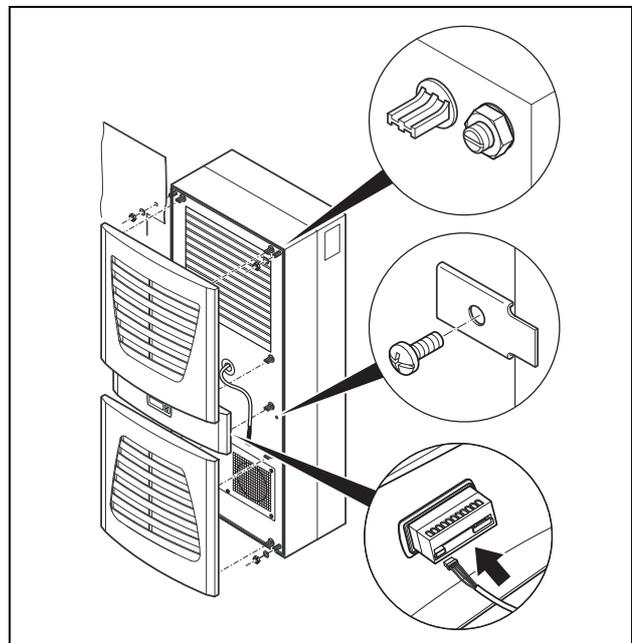

Fig. 18: Securing the cooling unit
- Where necessary, additionally secure the unit using the supplied mounting plates as shown in fig. 18.